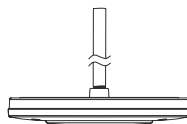

Figure 2
2. Screw the fixture to 3/4 NPT Stem. (Figure 2).